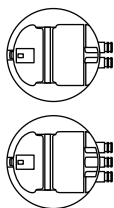

Fig. 1
1. Hole position matching: Confirm the number of holes in the filter element (two holes/three holes), ensure full compatibility with the corresponding hole positions on the main unit, and avoid incorrect insertion, as shown in Fig. 1.
1. Close the cold water valve, as shown in Fig. 1.